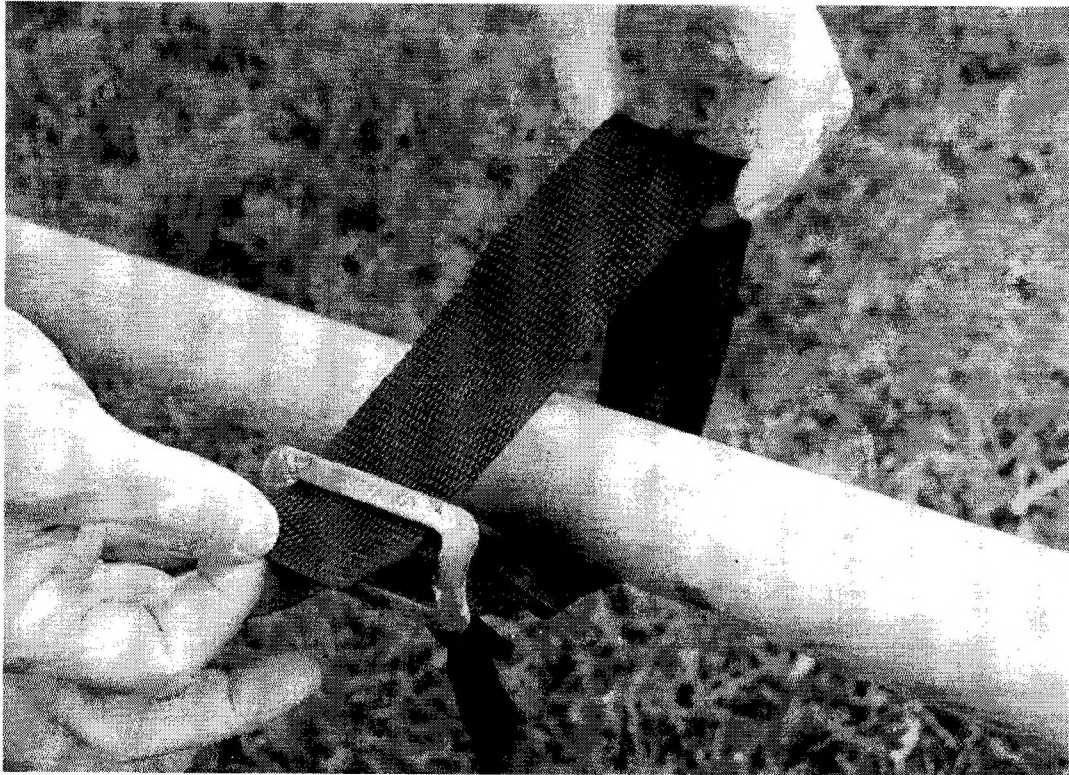

Figure 8: Buckle Connection 1
22. Fit strap, adjustable roof restraint (J11/8340-99-988-3214) (qty 2) Fig 8 to 15 and situate the strap as detailed in Fig 15. Ensure the straps are not twisted and the buckles are on the inside of the roof.
23. Fit the buckle end of the strap first passing the webbing through the buckle Fig 8, over and through the other side Fig 9 and back over itself Fig 10. Arrange the buckle to be under the frame so that it does not chafe the PVC covers Fig 15.